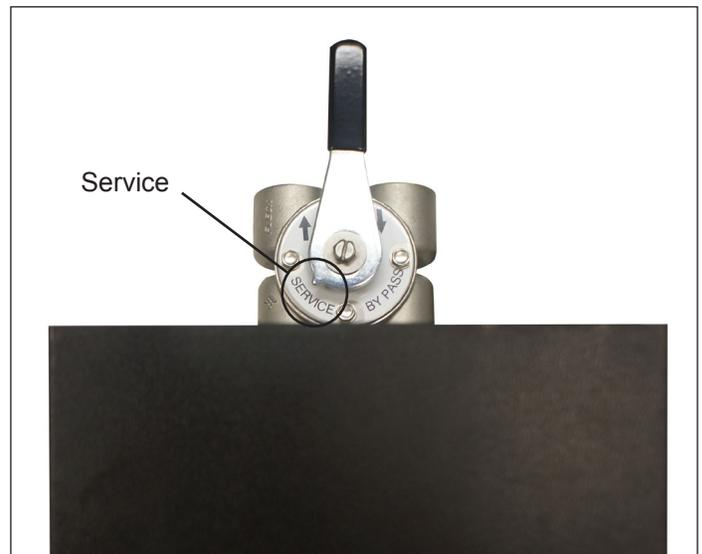

Figure 3. Service
4. Place the bypass valve in SERVICE by turning the valve handle to indicate SERVICE. The handle will be in line with the inlet and outlet plumbing connections, not across the valve body. See Figure 3.